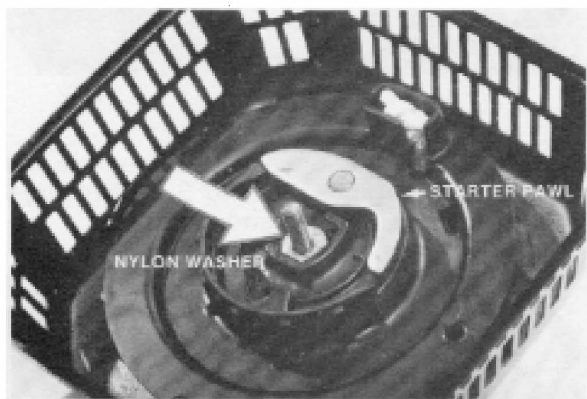

Figure 3-34
6. Remove the nylon washer that is installed under the spacer and spring. See Fig. 3-34. Lift the starter pawl off at this time.
2. Install the nylon washer, starter pawl and spacer. See Figs. 3-34, 3-33.